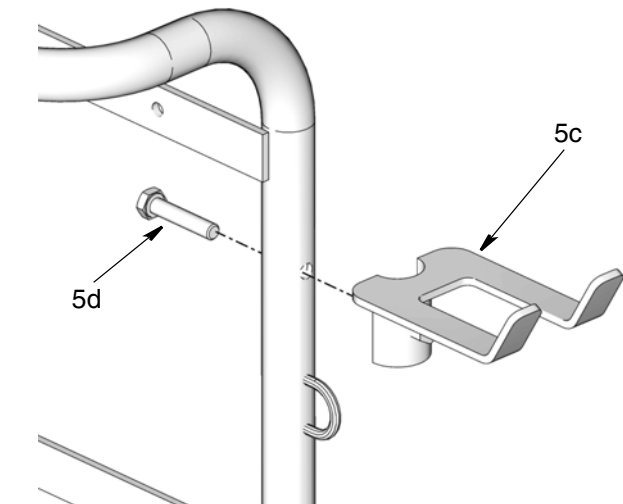

FIG. 32
- Install meter bracket (5c) to handle frame using screw (5d) as shown in FIG. 32.